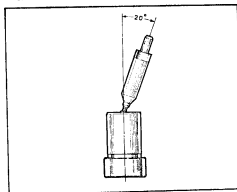

Fig.32 - Checking the pintle clearance
7. Renew the nozzle assembly if the pintle clearance is excessive when checked as shown in Fig. 32